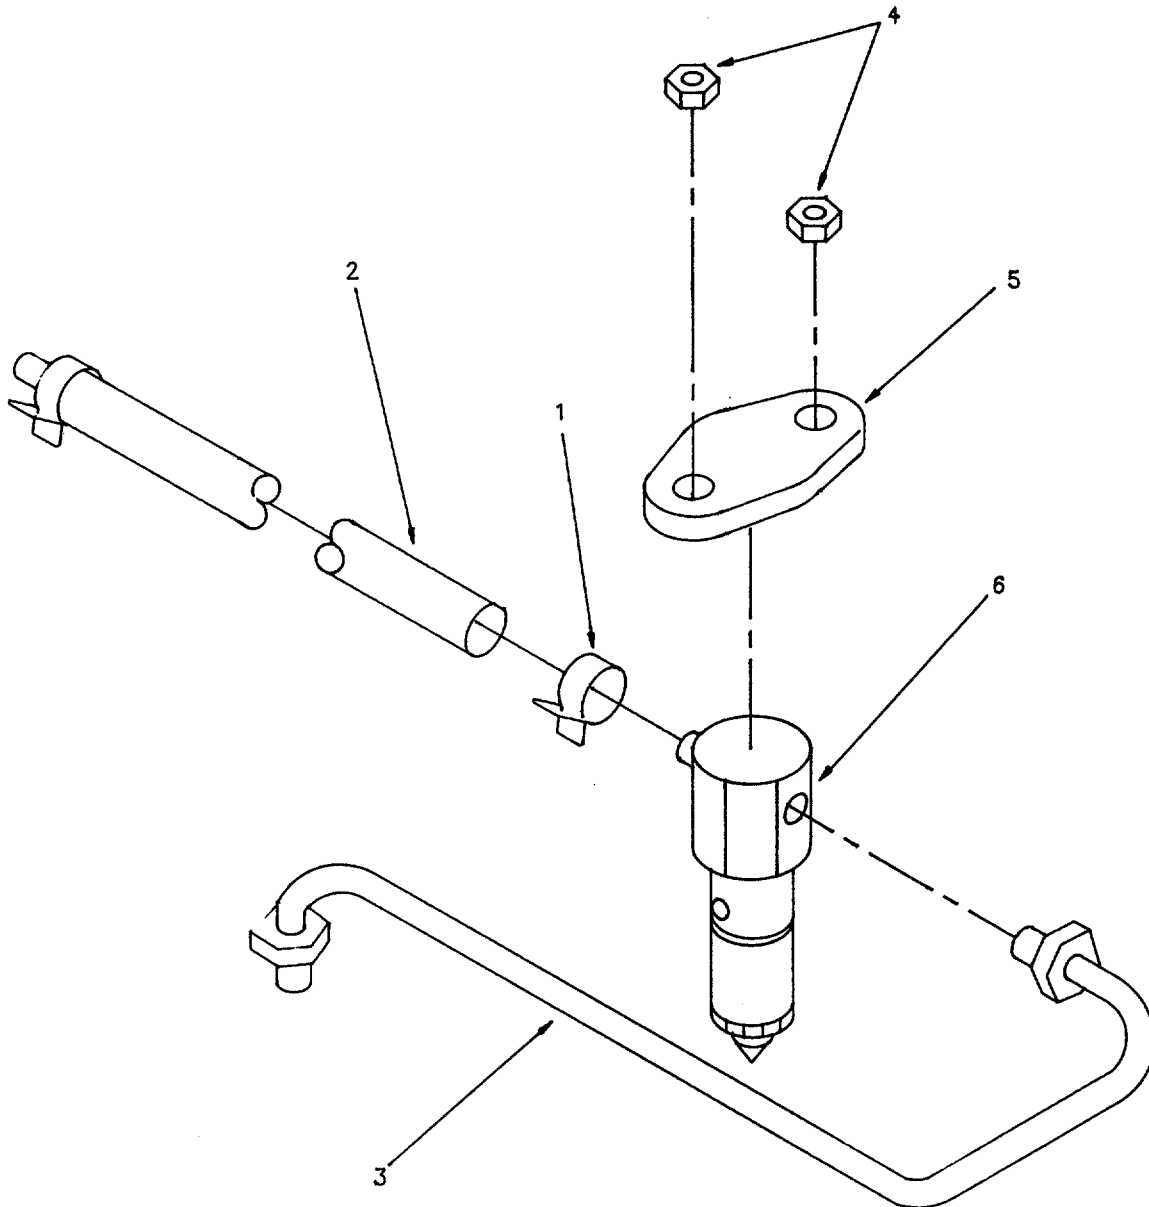

Figure 4-11. Fuel Injector Assembly.
- (1) Remove fuel tank assembly and nonmetallic tubing (reference para. 4-22).
- (2) Remove loop clamp (1, Figure 4-11) and nonmetallic tubing (2).
- (3) Remove metallic pipe (3).
- (4) Remove plain hexagon nuts (4) and retainer nozzle (5).